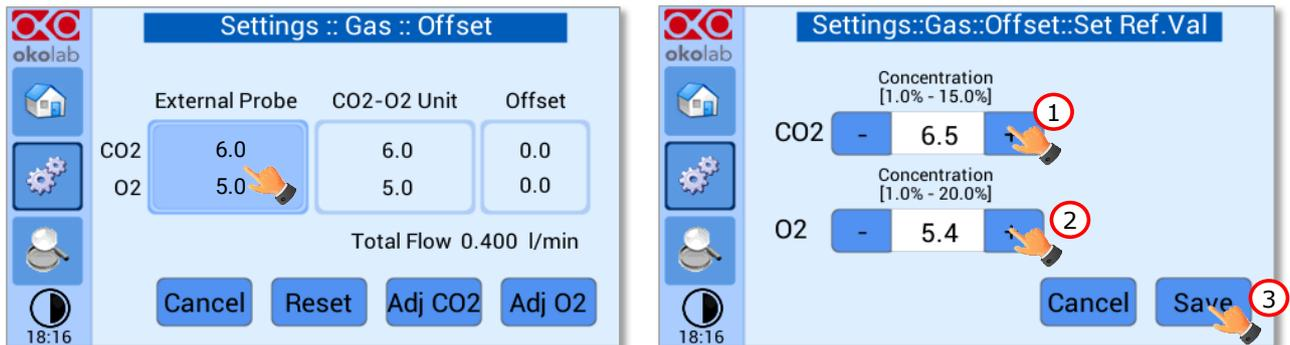

Figure 46. Manual Calibration (a - b).
6. Press on the *External Probe* Tab (as shown in Figure 46 a) in *Offset* page on the OKO-TOUCH display. The Figure 46 b appears.
7. Press on +/- icons to input the CO₂ (1 in Figure 46 b) and O₂ (2 in Figure 46 b) levels read by LEO (i.e. 6.5% for CO₂ and 5.4% for O₂), then press *Save* (3 in Figure 46 b).